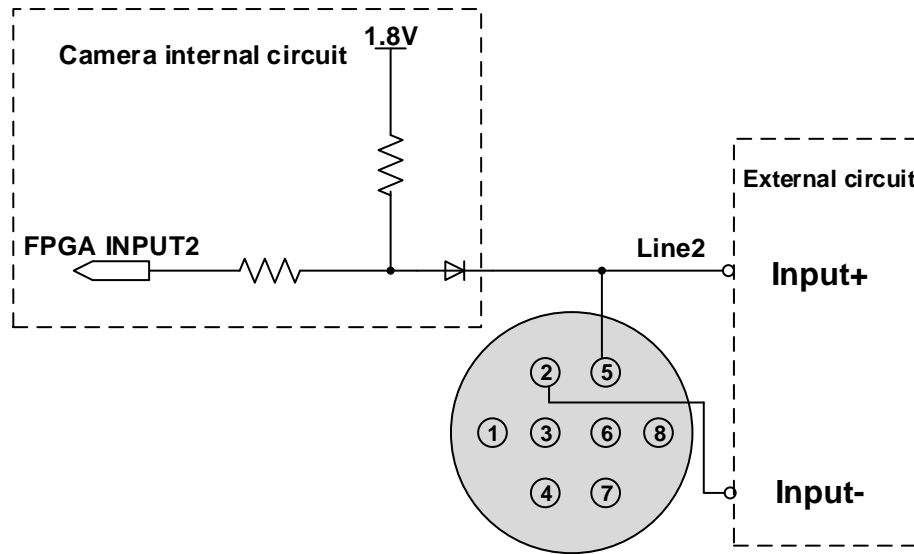

Figure 7-17 Internal equivalent circuit of camera when Line2 is configured as input
- When Line2 is configured as input, the internal equivalent circuit of camera is shown in Figure 7-17